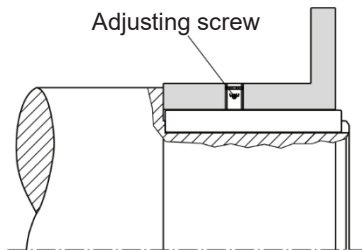

Fig. 5
- ❑ For axial securement, please provide an additional adjusting screw (ISO 4029 - 45H) as an alternative to a press cover (see Figs. 5 and 6).